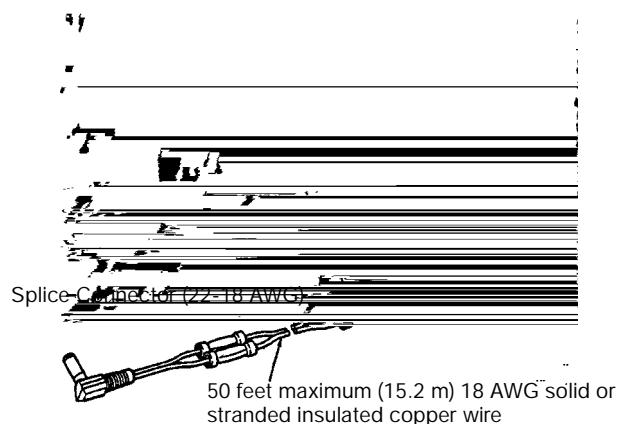

Figure 19
2. Insert stripped wire into barrel of connector and crimp. For best results, crimp twice per wire as shown in Figure 19.